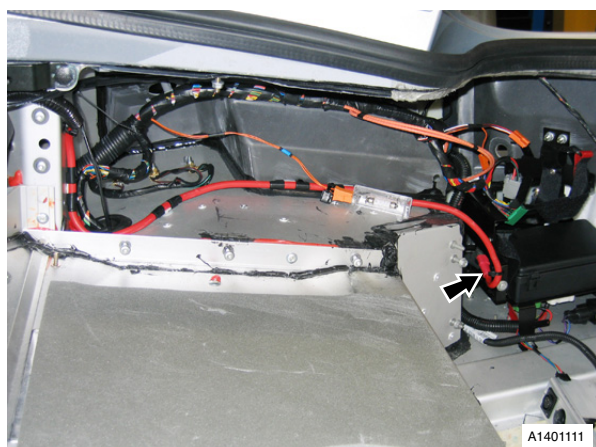

Fig. 3
19. Release terminal cover, remove nut securing battery cable to luggage compartment fuse box (see Fig. 3).